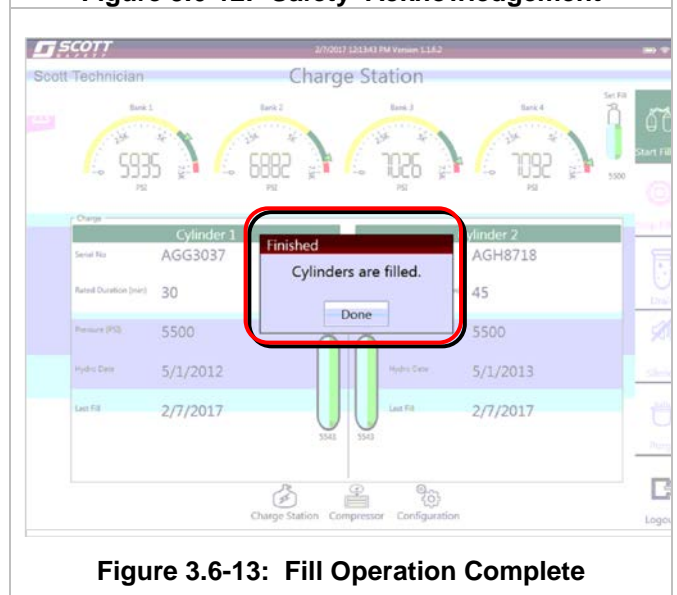

Figure 3.6-13: Fill Operation Complete
12. Once the fill operation has been completed a dialog box will appear to inform the operator that the cylinders have been filled. See Figure 3.6-13.